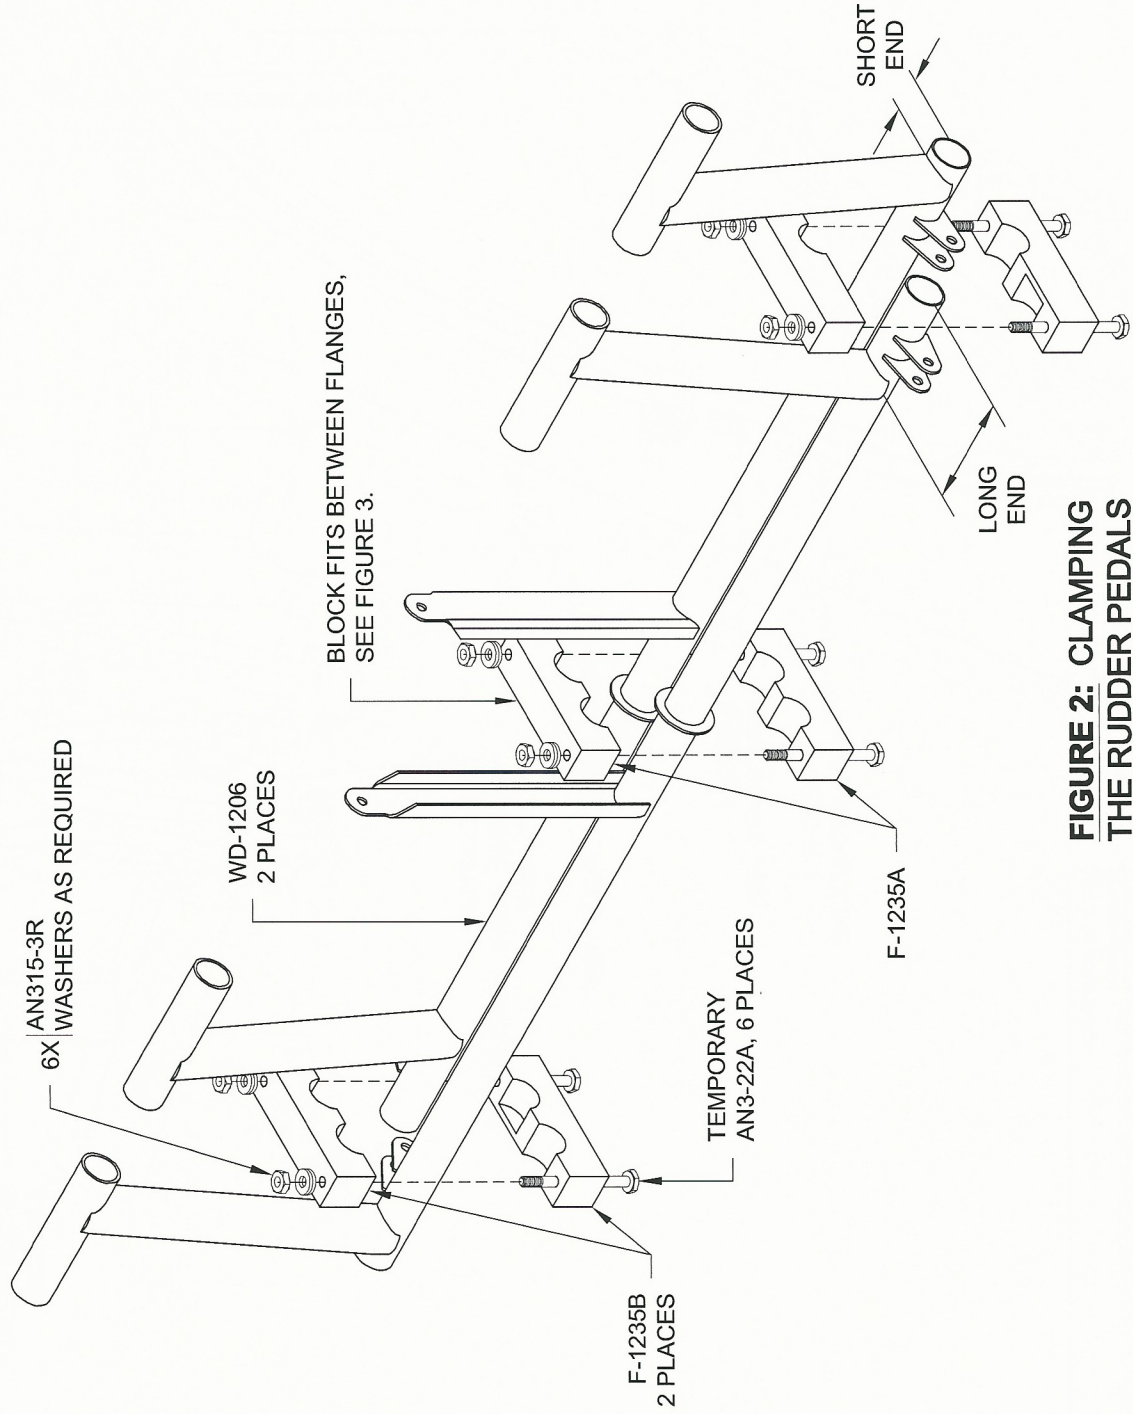

FIGURE 2: CLAMPING THE RUDDER PEDALS
Step 2: Clamp the WD-1206 Rudder Pedals using the F-1235A & B Rudder Pedal Blocks as shown in Figure 2. Be sure the rudder pedals are oriented as shown in the figure (long end and short end together), and place the heads of the bolts on the bottom so that the clamped assembly will lay flat on the work surface.